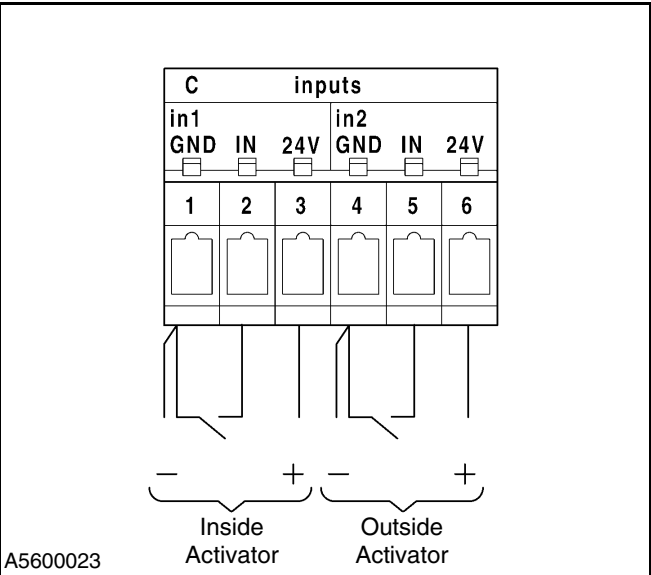
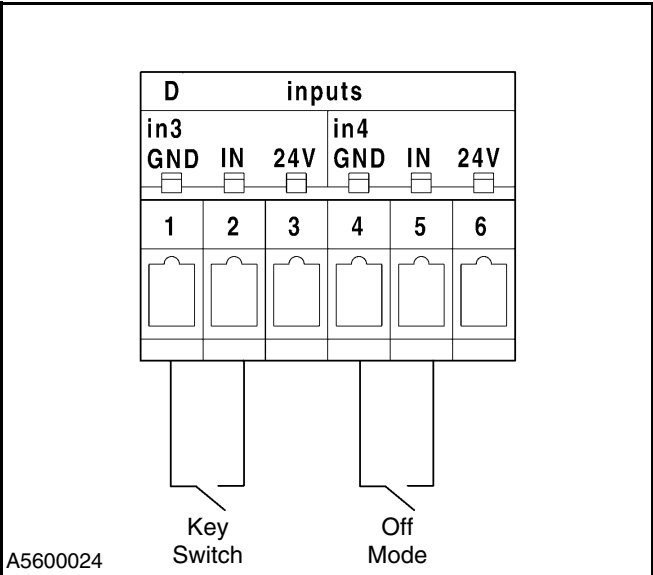

Figure 19
Figure 20
2. Inputs C1 and C2 are connections for the inside activators, and inputs C4 and C5 are connections for the outside activators. (See Figure 19 and Figure 20.) D1 and D2 key switch activates the door open in all operating modes except mode P.